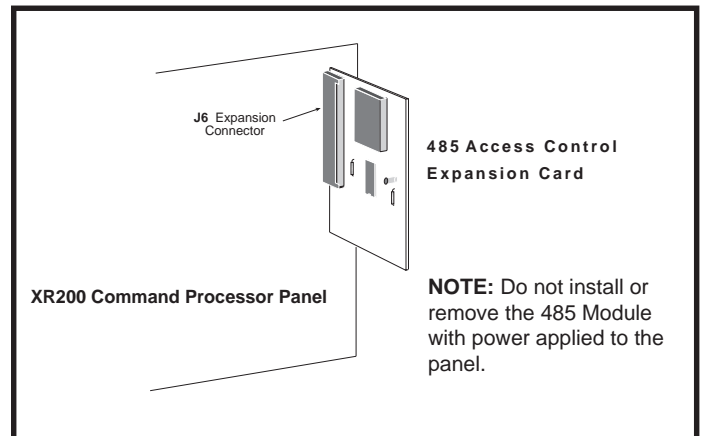

Figure 1: 485 Module installation
3. Gently press the 485 module into the J6 connector while applying even pressure to both sides. See Figure 1.
5. Gently press the 485 module into the J6 connector while applying even pressure to both sides. See Figure 1.